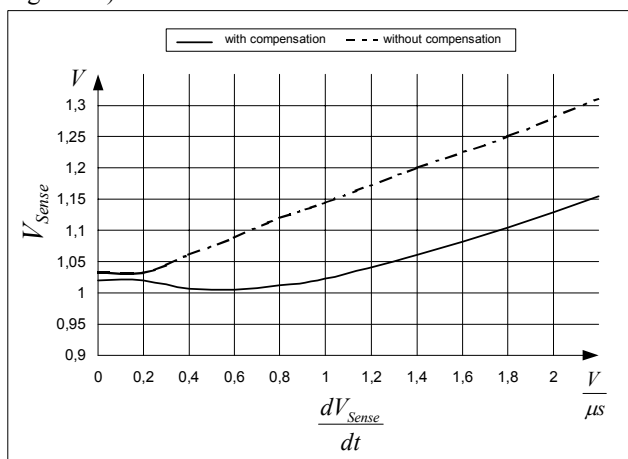

Figure 12 Overcurrent Shutdown
E.g. $I_{peak} = 0.5A$ with $R_{Sense} = 2$. Without Propagation Delay Compensation the current sense threshold is set to a static voltage level $V_{csth} = 1V$. A current ramp of $dI/dt = 0.4A/\mu s$, that means $dV_{Sense}/dt = 0.8V/\mu s$, and a propagation delay time of i.e. $t_{Propagation Delay} = 180ns$ leads then to an I_{peak} overshoot of 14.4%. By means of propagation delay compensation the overshoot is only about 2% (see Figure 12).